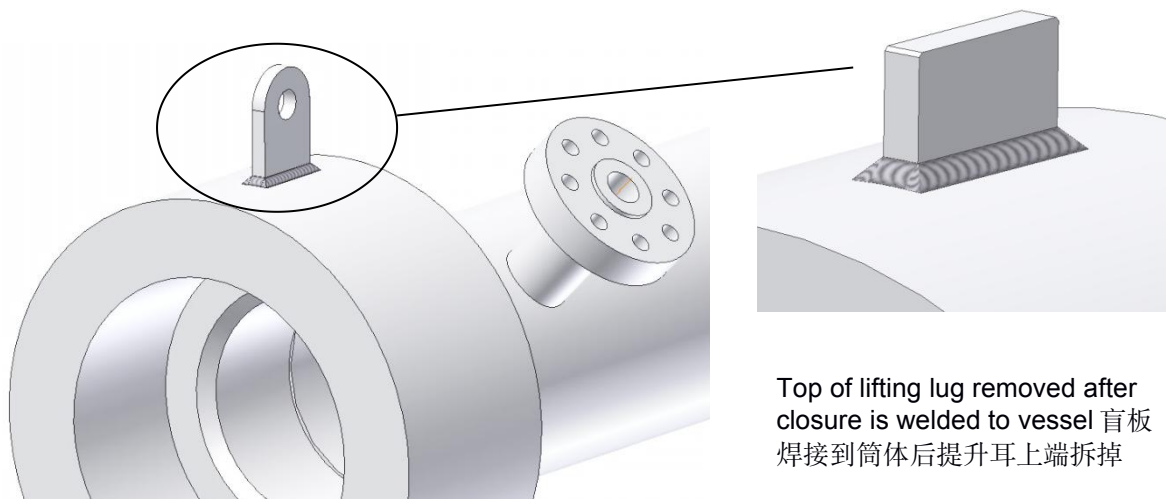

Fig 5.0 – Removal of Lifting Lug (提升耳的拆除)
- 1 Branch connections (in particular set-in type) should not be located within close proximity of the joining weld (not less than the nominal diameter (ID) of the branch, between the edges of the weld). 支管不能位于焊缝附近（两个焊缝的距离不能小于支管的直径）
- 6 On larger closures fitted with separate hinge retaining lugs, a lifting lug is provided to aid positioning for welding. This lifting lug must be removed after welding (Fig 5.0) 大型盲板会安装销轴定位耳，此提升耳在焊接后要除掉（图 5.0）